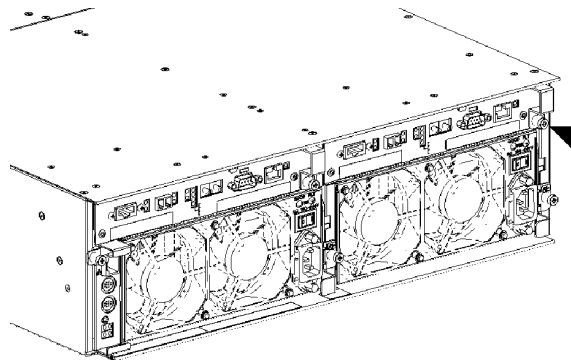
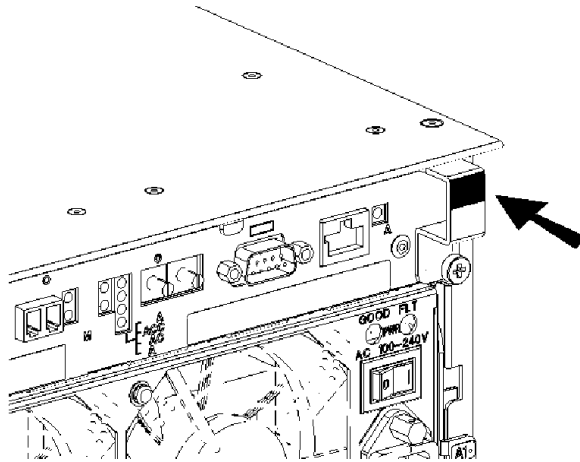

Figure 3-4. Loosening the Controller Ejector Screw.
Figure 3-10. Securing the Ejector.
3. Loosen a screw securing the ejector of the controller module to the chassis. See Figure 3-4.
- 12.** Push in on the ejector until the controller is firmly seated in the chassis. See Figure 3-10. Secure the ejector with the screw previously removed. See Figure 3-4.